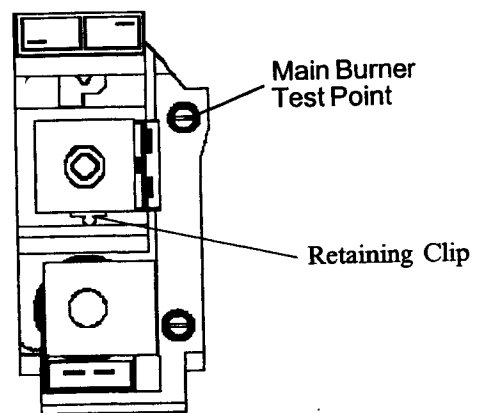

Fig. 20
- 6.6.4** Locate the main burner pressure test point (Fig. 20) and slacken the screw half a turn in an anti clockwise direction. Attach a suitable pressure gauge. Turn on electricity supply and fully open a domestic hot water tap to operate boiler in dhw mode. Adjust hot water control knob to it's maximum setting.